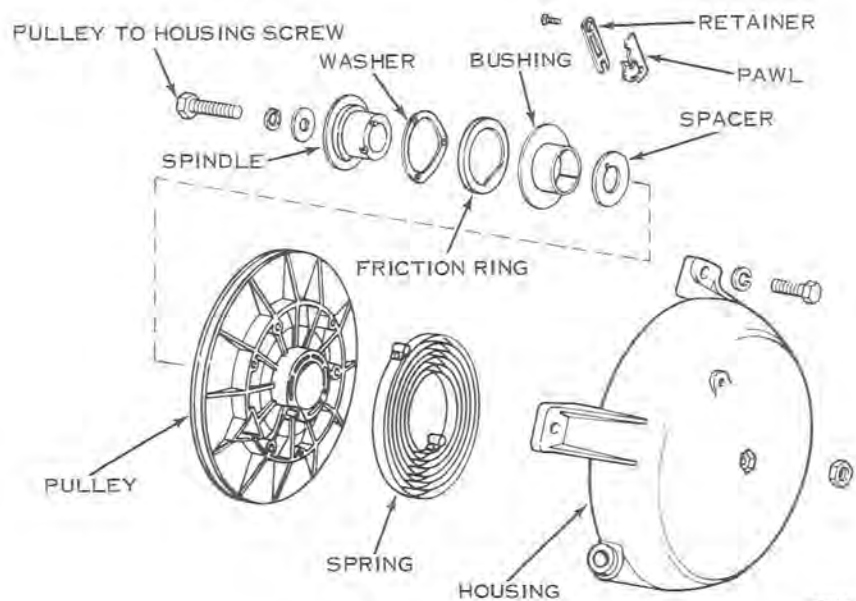

Figure 8-1
- c. Remove screw (pulley to housing) and remove all components of starter pulley spindle assembly. See Figure 8-1.